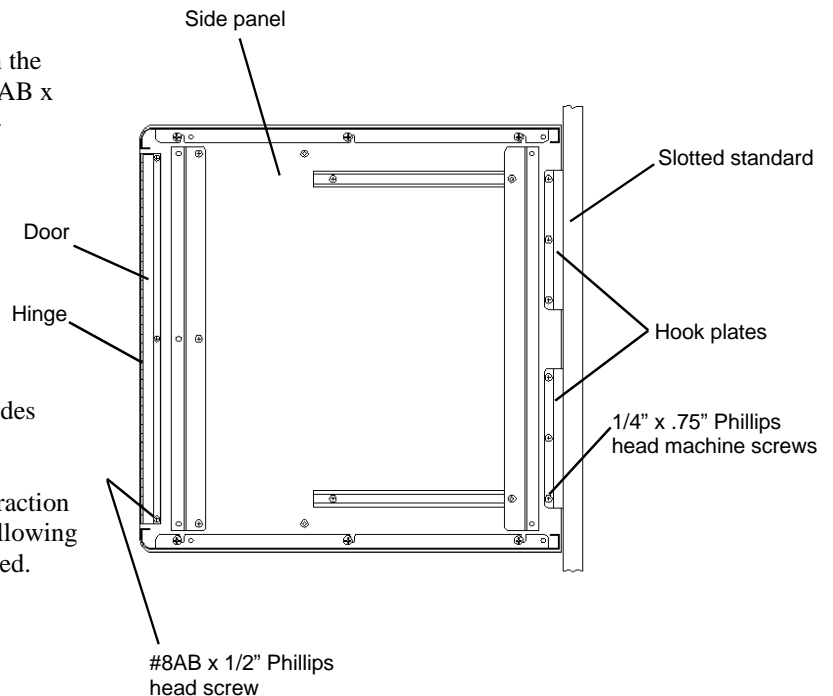

Figure 5
- C. If one Side Panel remains higher than the other, loosen all of the 1/4"-20 x .75" Phillips head machine screws which fasten the hook plates to the Side Panels. See **Figure 5**.
- D. The Door can be adjusted up or down within the Lan Locker II enclosure by loosening the #8AB x .50" Phillips head screws. See **Figure 5**. Re-tighten the screws after adjusting the door.